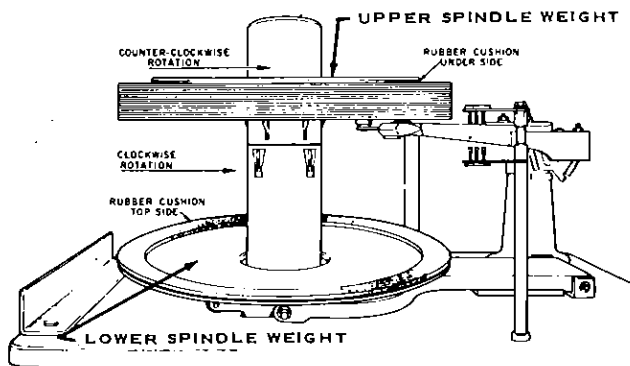

Figure 4. Playing Underside of Record.
1. If the mechanism is playing the underside of a record, *Figure 4*, reject this record side by pushing the Reject Button to the left. After